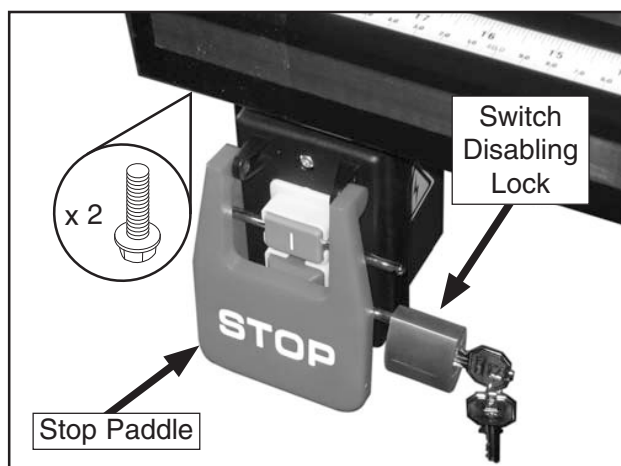

Figure 39. Switch installed.
- Fasten the switch to the left end of the front rail with (2) M8-1.25 x 12 flange bolts, then insert the switch disabling lock, as shown in **Figure 39**.